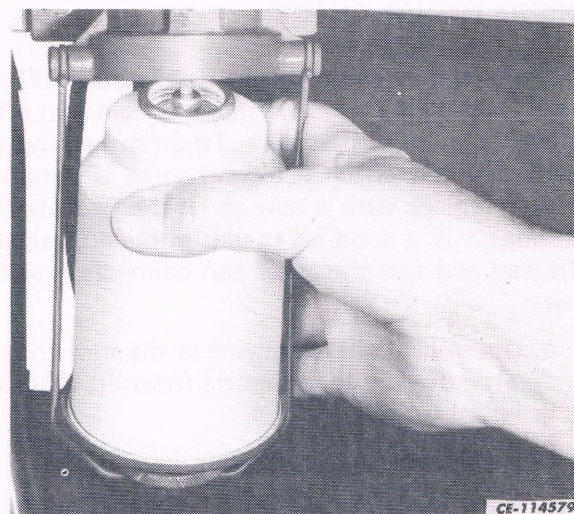

Fig. 39. Removal of Ether Can (Typical Illustration)
1. Turn the knurled adjusting screw clockwise until the starting fluid container can be removed from the injector body (Fig. 39). Discard the container.